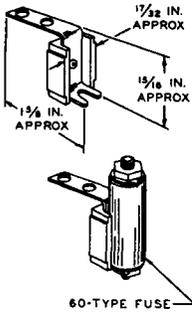
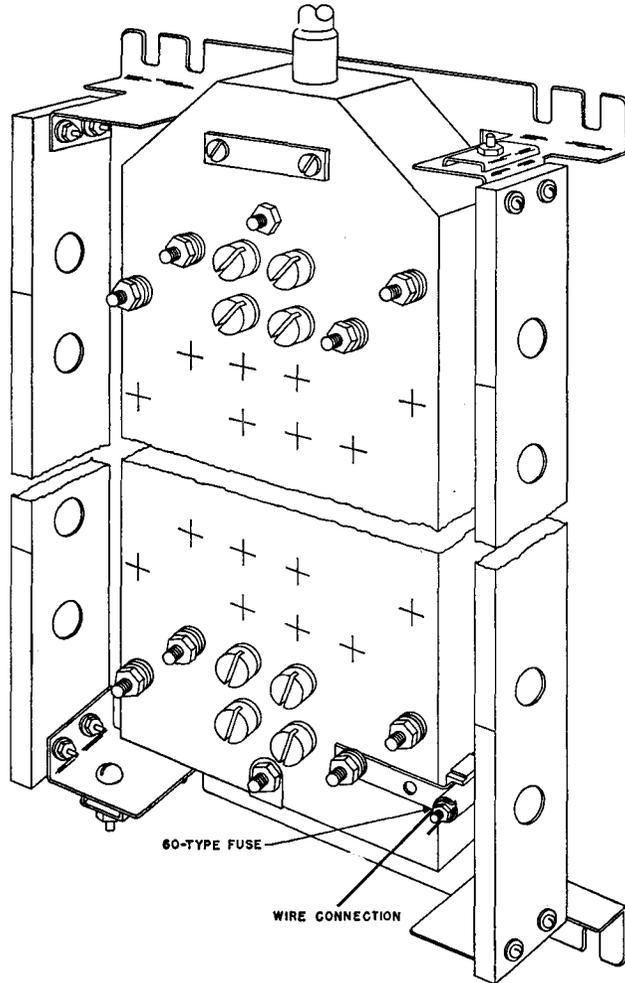

Fig. 17 - The 14A Fuse Holder
Fig. 18 - Mounting and Wiring 14A Fuse Holder
10.02 Fuse holder is a fiber detail riveted to a Z-shaped metal bracket, see Fig. 17. Two holes are located in one leg for attachment to either binding post of a cable pair. Wire is connected under fuse nut as shown in Fig. 18.